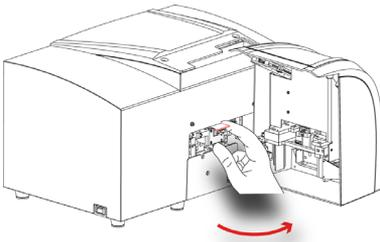

Figure 41: Removing the Slide from the Slide Transport
3. If accessible, manually remove the slide or slide fragments from the slide transport (Figure 41). Use vacuum to remove all slide fragments if necessary.